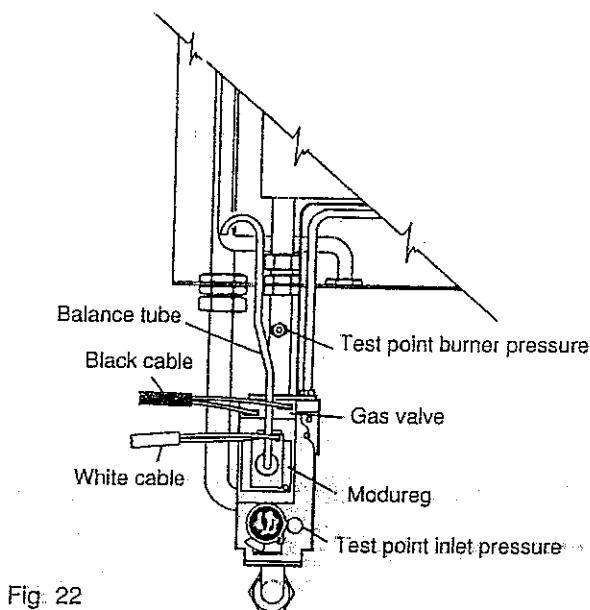

Fig. 22
- Loosen the screw in the burner pressure test point (fig. 22) and attach a gauge.
- e. Disconnect one of the wires from the «Modureg» (fig. 22), this will reduce the burner to minimum which should read 2.5 mbar $\pm$ 0.5 mbar. If the burner pressure are not as stated check the inlet pressure (fig. 22) which should be minimum 20 mbar. If that is correct, consult Ferrol. No attempt should be made to alter D.H.W. burner pressure.